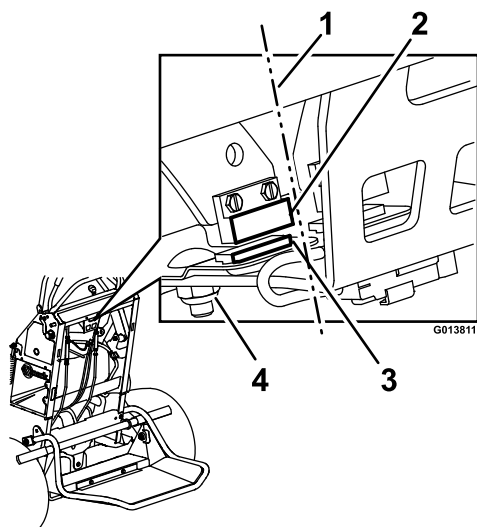

Figure 39
6. Check the alignment on the LH and RH neutral switches upper and lower surfaces (reference Figure 39). If they are not in alignment, loosen the hardware on the lower neutral switch and adjust it forward or rearward as necessary. Once aligned, tighten the hardware. Check the neutral switch alignment again as the deck is moved through the highest and lowest cut height setting; adjust the lower neutral switch surface if necessary.